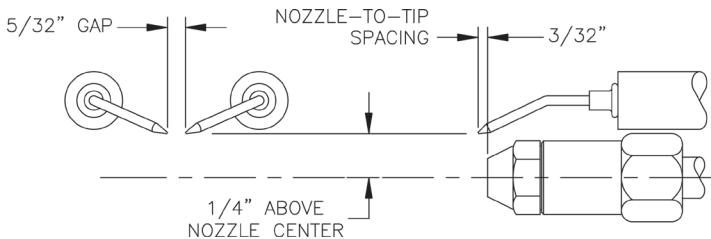

Figure 29: Electrode Tip Gap and Spacing
- a. Verify nozzle size, gun setting and positioning of electrodes. See Figures 29 through 31 and Beckett NX Burner Specifications, Table 10 at the rear of this manual.
- h. Check electrodes to comply with dimensions shown in Figure 29. For adjustment, loosen the electrode clamp screw and slide /rotate electrodes as needed. Securely re-tighten the clamp screw when finished.